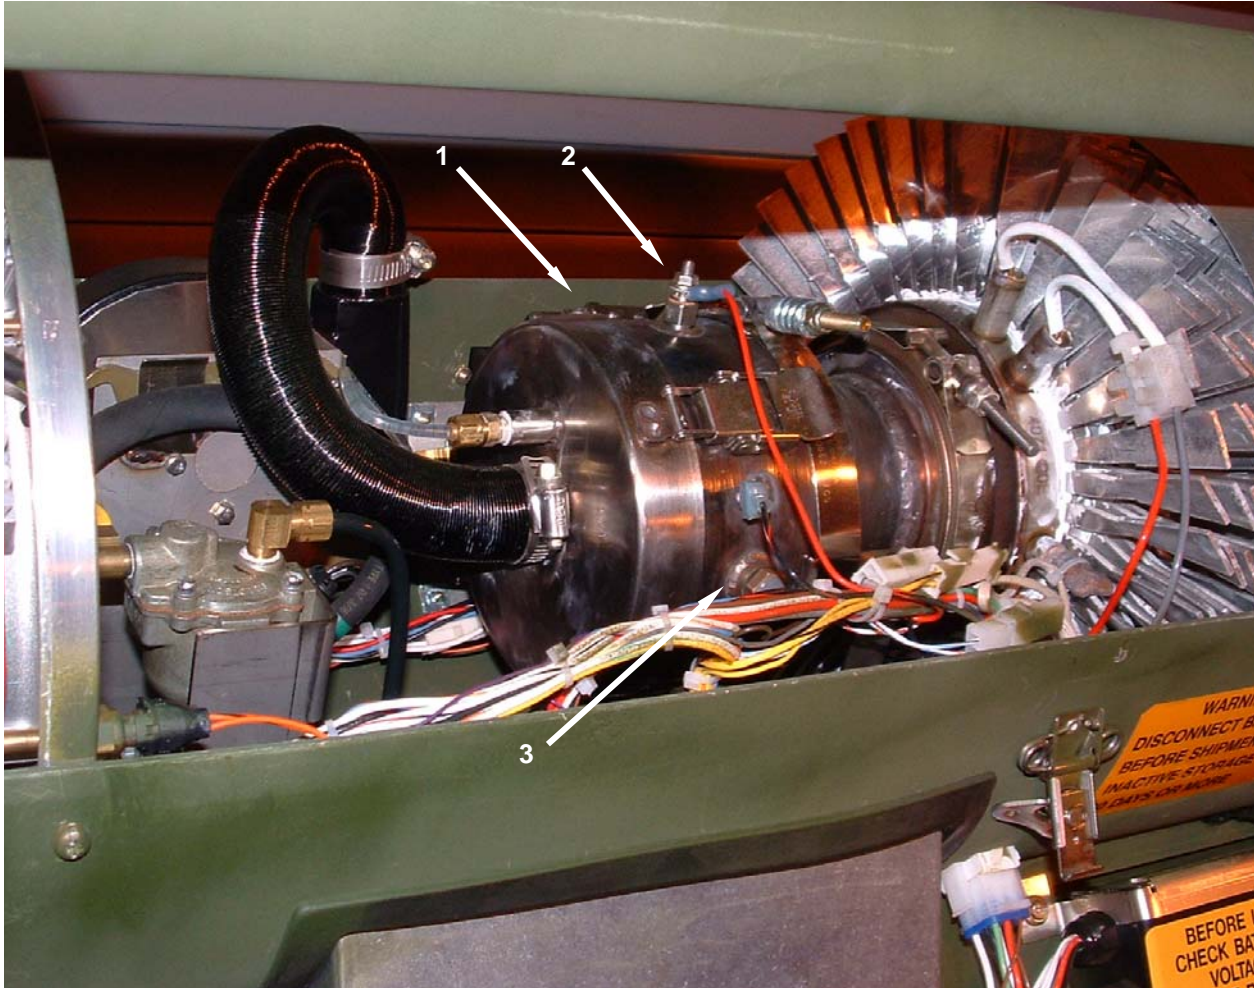

Figure 4. Replace the Burner Assembly.
1. Remove the burner assembly (**Figure 4, Item 1**) as instructed in the REMOVE section of this WP.
2. Remove the glow plug (**Figure 4, Item 2**) and the flame sensor (**Figure 4, Item 3**) from the burner assembly (**Figure 4, Item 1**), and retain for reuse.
3. Install the replacement burner assembly (**Figure 4, Item 1**) as instructed in the INSTALL section of this WP.